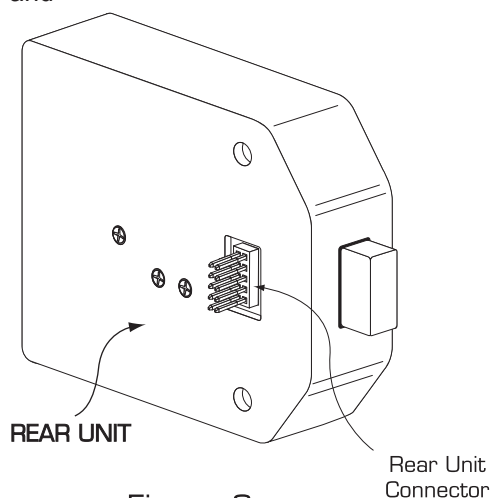

Figure 2
- ② **Warning:** Do not touch the rear unit connector against metal or other conductive surfaces. This may short the pins and cause damage to the lock. (See Figure 2)